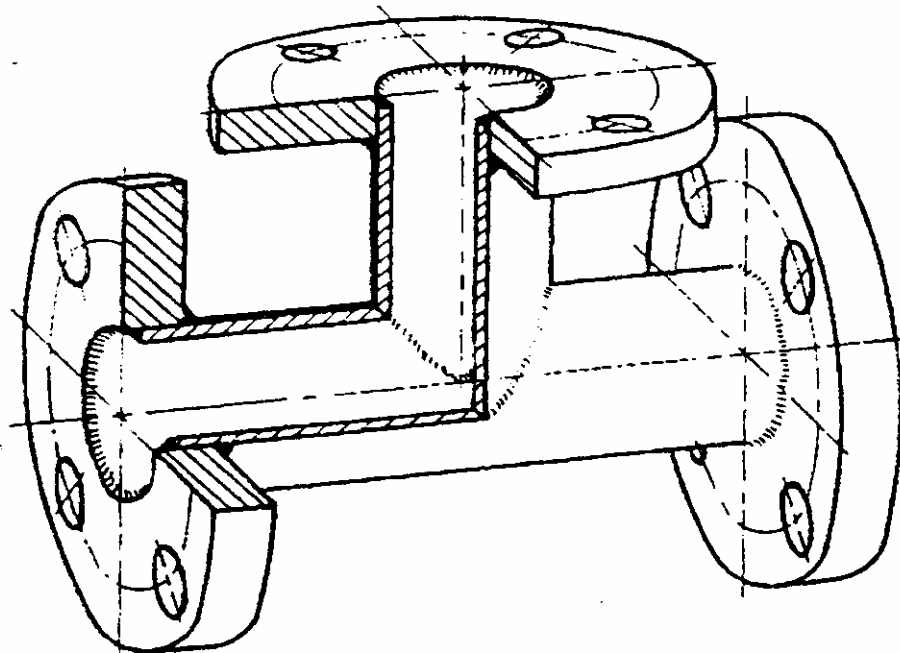

Figure 3: Component assembly for Question 4
4. The component shown below in Figure 3 is to be constructed from 5 pieces of mild steel. The overall length of the component is 0.5 m, all other dimensions may be estimated. Discuss the suitability of the component for manufacture by (a) manual arc welding, and (b) adhesive bonding.